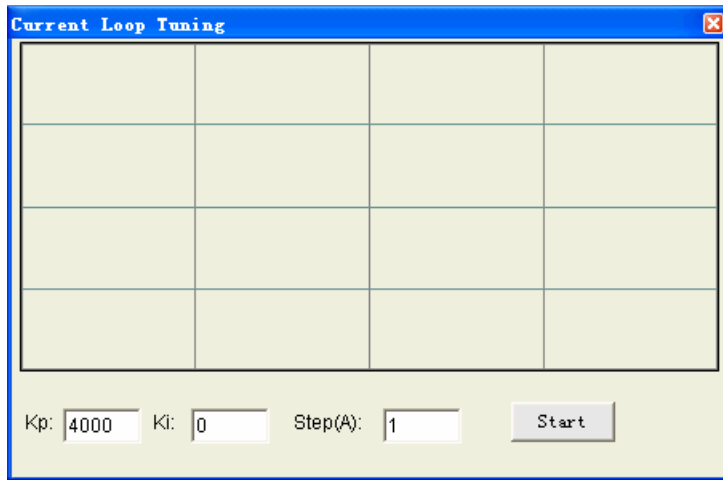

Figure 3-1: Initial value for K_p , K_i and Step for current loop tuning
Step 1: See figure 3-1. Set test **Step** 1 Amp and begin the tuning with small **Kp** and zero **Ki**. Here we give **Kp** 4000. Please hit the “Enter” key after entering in the number.